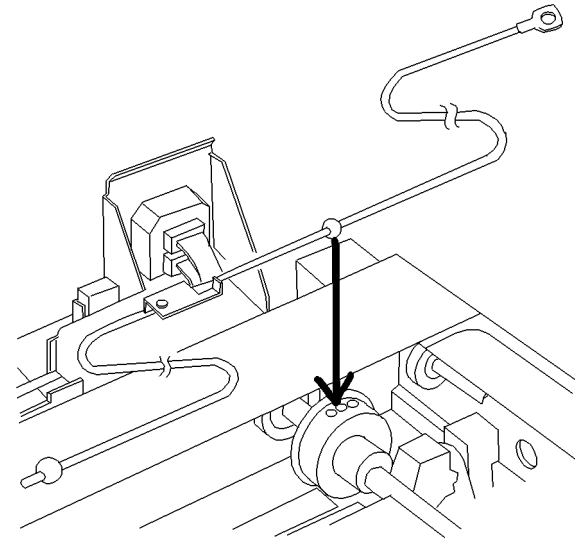

Figure 4 Winding Carriage Cable
1. Wind Carriage Cable into pulley (Figure 4).